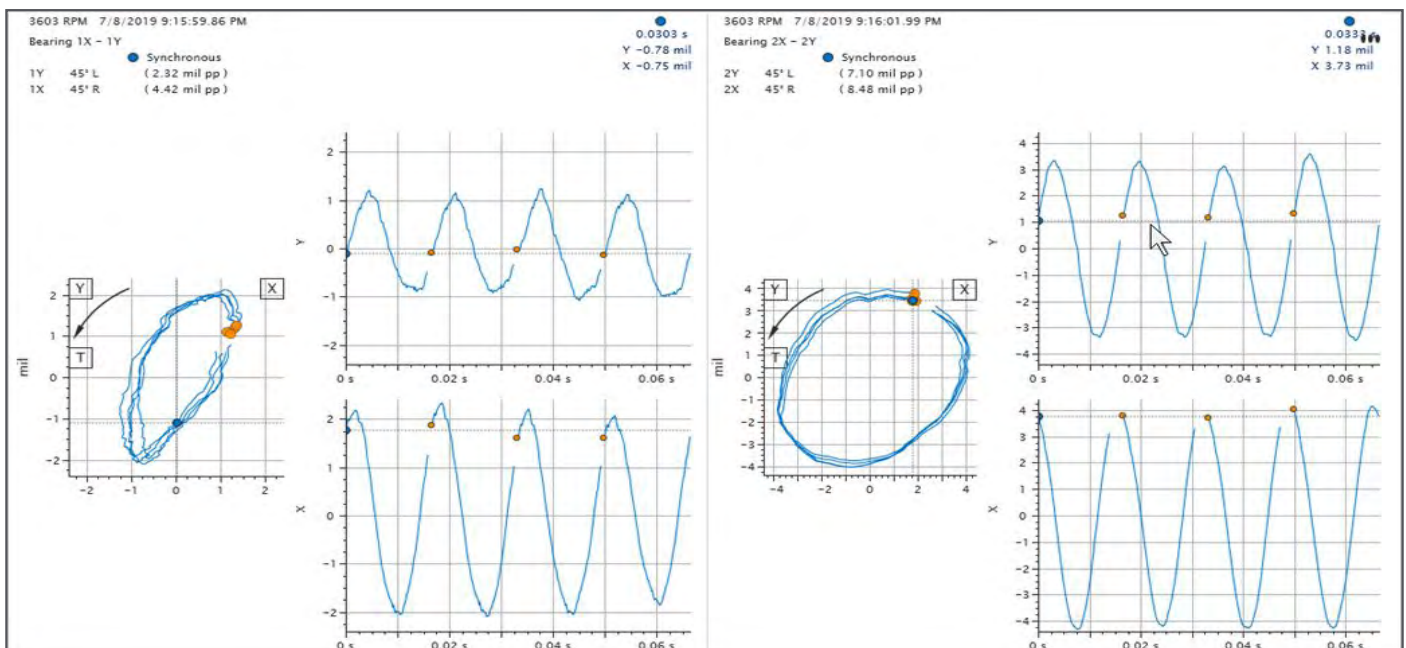

Figure 5. Orbit pots on the gas turbine inlet bearing (left) and the exhaust end bearing (right).
- The orbit plot for the exhaust end of the gas turbine was flattened, while that for the inlet end was more open and with a larger amplitude. Both were forward precessed (see Figure 5).